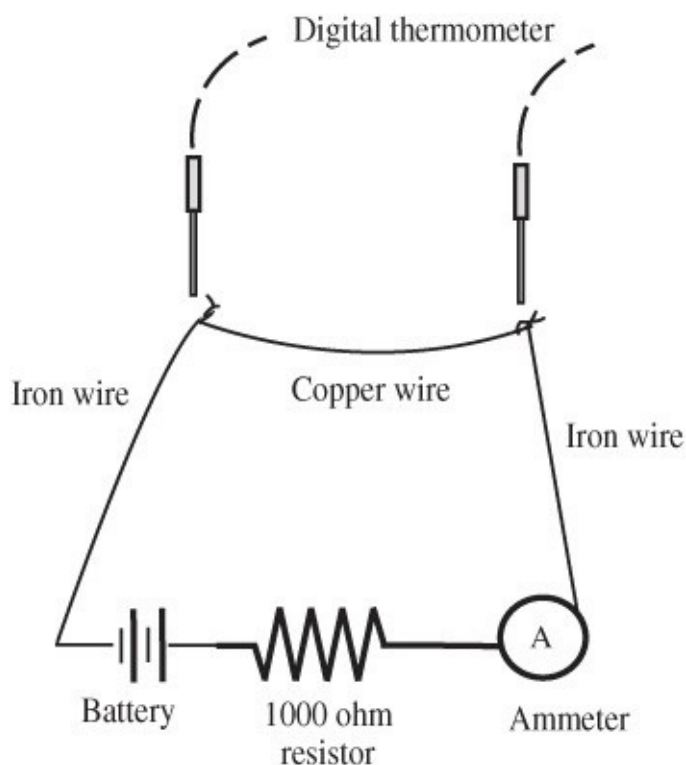

Figure 95-2 *Apparatus for the Peltier effect.*
2. Connect the components as a series circuit consisting of the wires, the ammeter, a 1000 ohm resistor, and an ammeter. This circuit is shown in Figure 95-2.